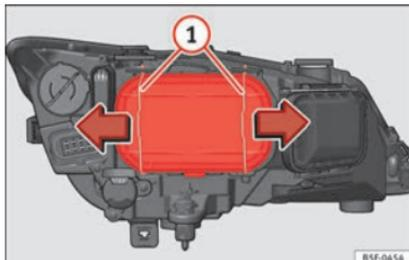

Fig. 102 Dipped beam headlights.
- Move the loops » Fig. 102 ① in the direction of the arrow and remove the cover.